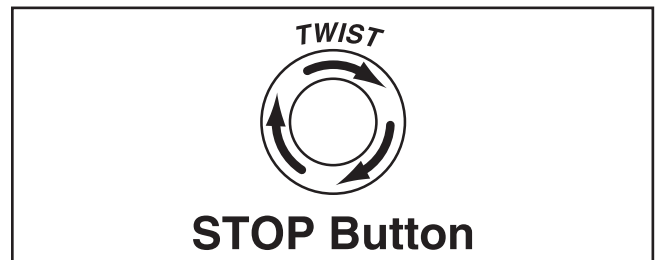

Figure 32. Resetting the switch.
8. Twist Emergency Stop button clockwise until it springs out (see **Figure 32**). This resets switch so machine can start.